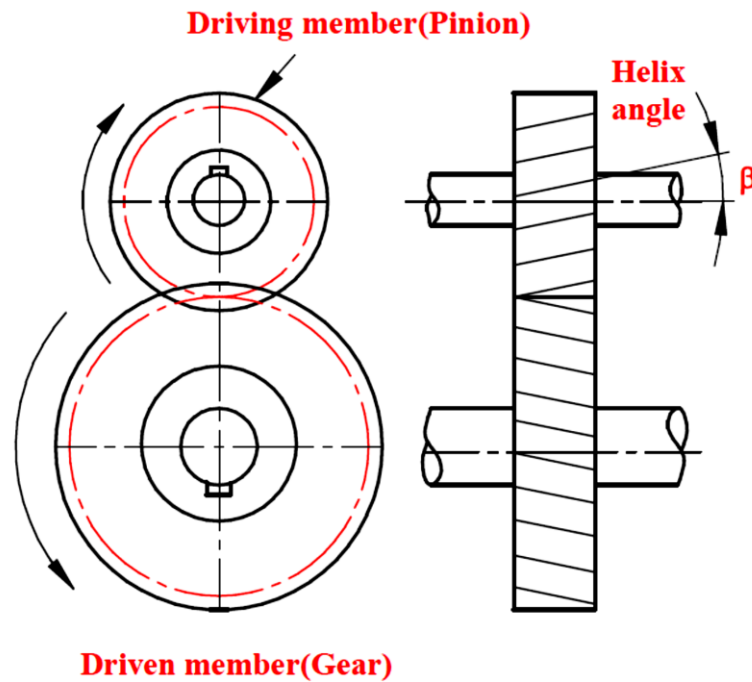

Fig. 4.7 Helical gears
- Helical gears are used to transmit power between parallel shafts. Fig. 4.7 shows the Helical gears.